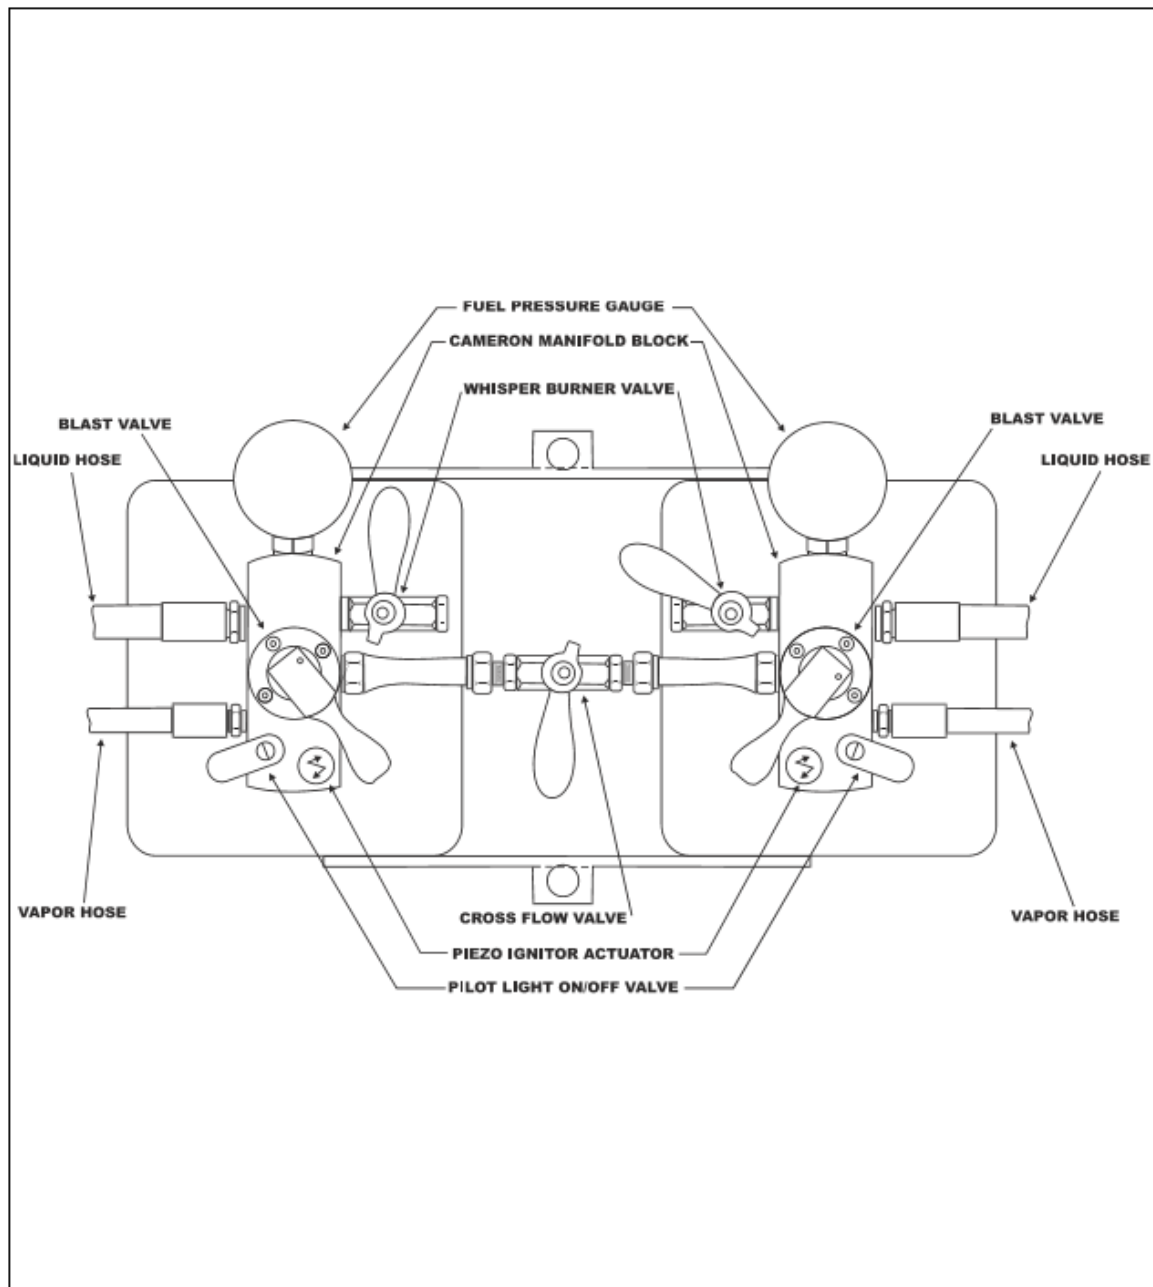

FIG. 6.12
- 3) Loosen one side of the crossflow valve (refer to FIG. 6.12) by holding the crossflow valve securely with a 19mm wrench and completely loosen one swagelok fitting. (19mm wrench).